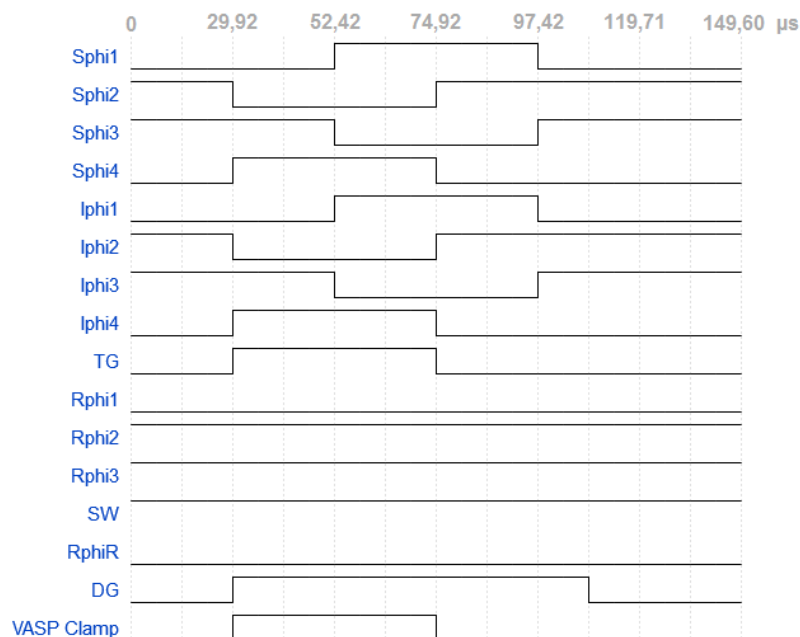

Figure 6-8: Pre-cleaning timing diagram
This state is entered after state INTEGRATE WAIT 1 if pre-cleaning is enabled (PC_ENABLED = '1'). In this state the clocks that transfer the charges from the image and storage areas are active (IØ[1:3] and SØ[1:3]). The CCD dump gate (DG) is active, thus the charges are discarded. Depending on the value of PC_LOOP_CNT, the whole or part of the image can be discarded. The timing diagram for this state is shown in Figure 6-8 and it is similar to that timing diagram of state FRANE TRANSFER. The total time taken for pre-cleaning is given by the following equation: